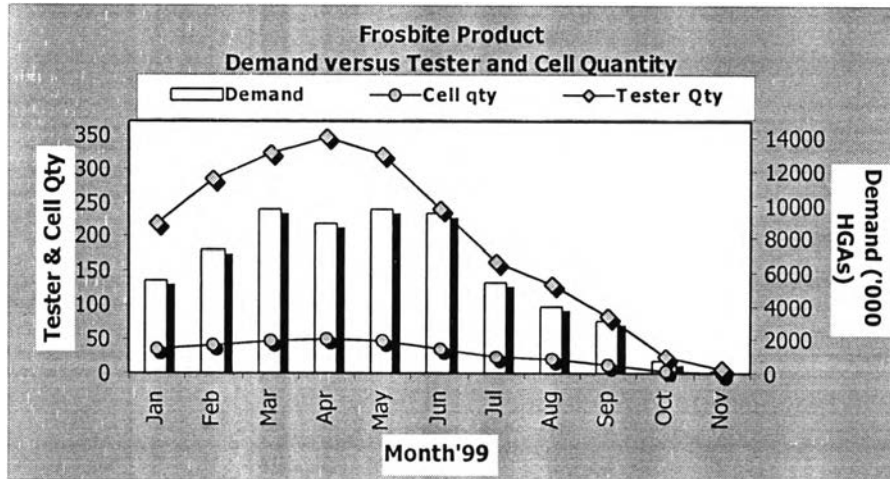

Figure 4.4 HGA demand versus assembly lines and tester quantity
- 2) Number of tester and assembly lines keep changing according to HGA demand as shown in figure 4.4. More problems time consuming of manipulating information and complicate analysis may be affected.